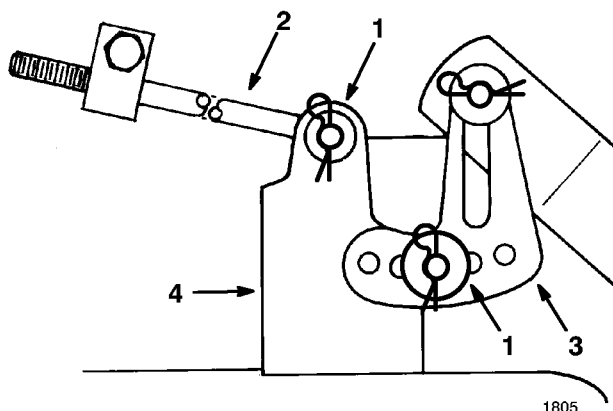

Figure 42
10. Remove the hair pin cotter and washer from the end of the long rod (Fig. 42). Now slide the rod out of the mower mount. Repeat this step on the opposite side of the mower.
11. Remove the hairpin cotter and washer at the mower leveling bracket (Fig. 42). Slide the bracket off the mounting pin. Re-install the washer and hairpin cotter for storage.